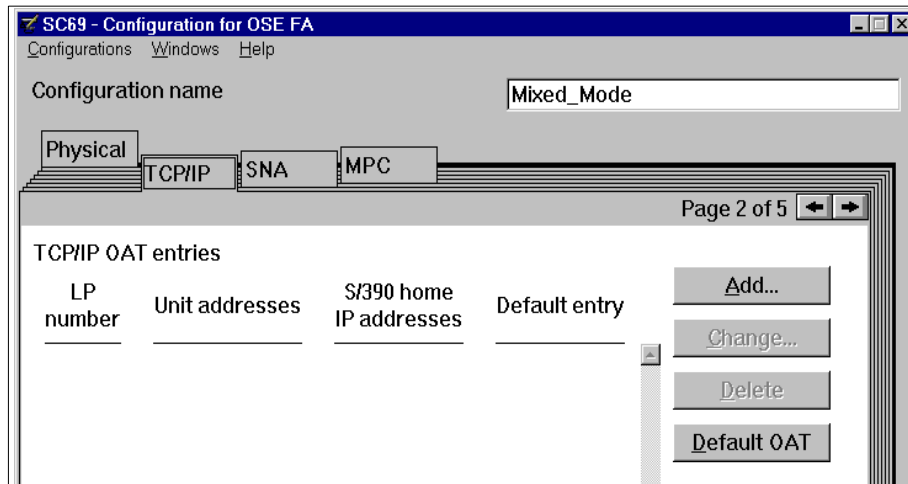

Figure 7-5 TCP/IP Configuration for OSE FA
1. Select either the **TCP/IP** tab, or the right arrow next to the Page 1 of 5 counter, to proceed to the TCP/IP setup. Figure 7-5 shows the empty TCP/IP OAT entries panel.